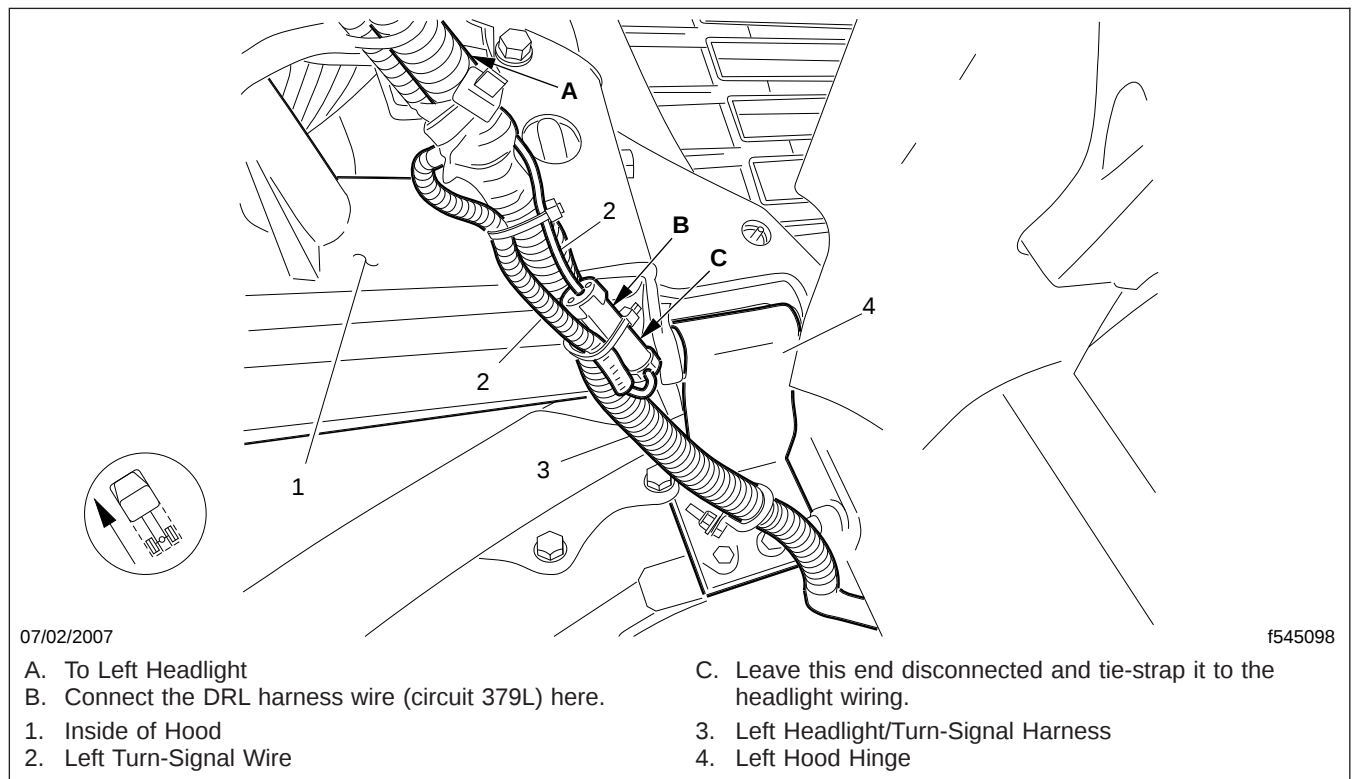

Fig. 2, Left Turn-Signal Connection for DRL (hood raised)
- 7.3 Using diagram D06-53191-001 as a general reference, route the wire harness from the CHM to the turn-signal connections near the headlights. See Fig. 2. Disconnect the turn-signal wires (circuits 38R and 38L) and connect the wires for circuits 379R and 379L to the corresponding left- and right-side turn signal wires.